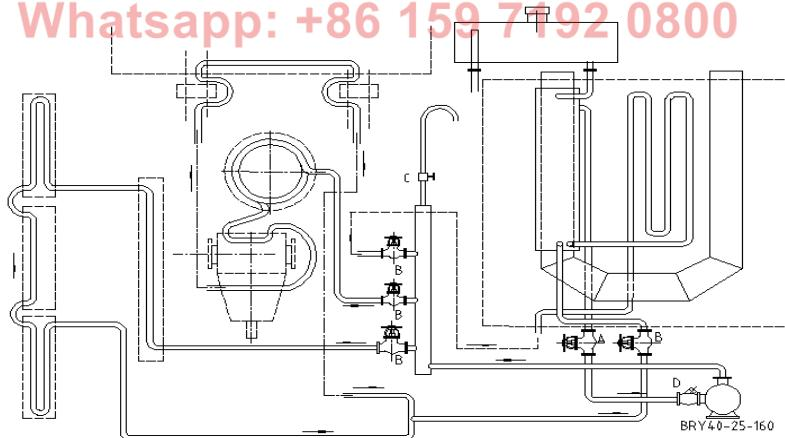

Fig. 5 Heat transfer oil circulation/heating system
2. The heat transfer oil circulation/heating system (as shown in Fig. 5) consists of heat transfer oil pump, heat transfer oil expansion tank, asphalt heating/circulation pipes, and spraying system heating/circulation pipes. The heat transfer oil from the heat transfer oil heating chamber by the heat transfer oil runs in three paths as follows: a. from heat transfer oil pump, via (upper) oil outlet stop valve and in-tank heating pipes, to heat transfer oil heating chamber; b. from heat transfer oil pump, via (middle) oil outlet stop valve, asphalt filter, asphalt pump, and oil return pipe (for small circulation) or oil return pipe (for big circulation), to heat transfer oil heating chamber; c. from heat transfer oil pump, via (lower) oil outlet stop valve, bottom cross pipe, left spray bar and right spray bar, to heat transfer oil heating chamber.